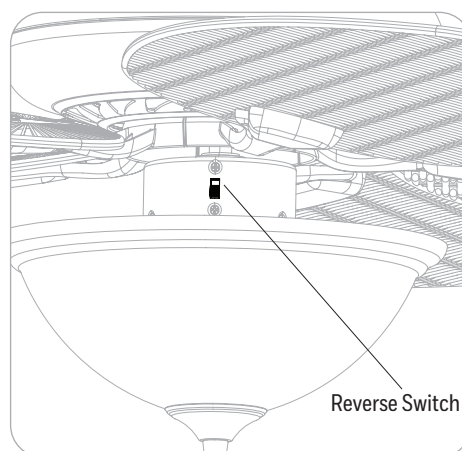

Figure 6.2
2. Use the reverse switch located on the switch housing to optimize your fan for seasonal performance. **In warmer weather,** push the reverse switch down which results in downward airflow creating a wind chill effect. **In cooler weather,** push the reverse switch up which results in upward airflow that will help move hot air of the ceiling (Figure 6.2). **Important:** Wait for the fan to stop before moving the reverse switch. The reverse switch must be set either completely up or down in order for the fan to function correctly. If the reverse switch is set in the middle position, the fan will not operate.